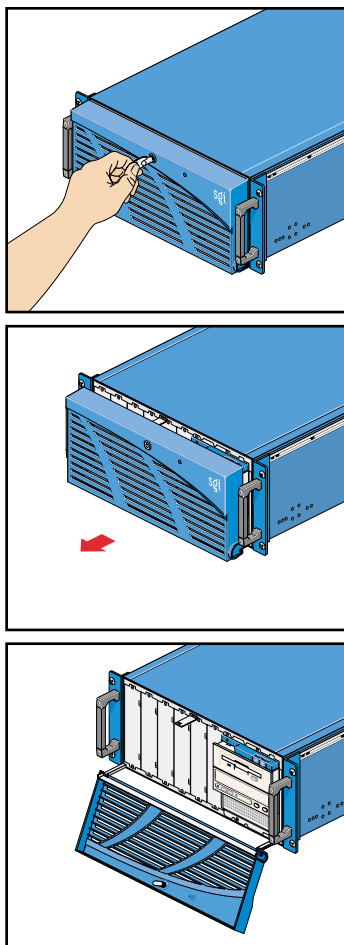

Figure 4-1 Opening a Node Bezel
2. Pull the bezel out and away from the node, and swing the bezel down, as shown in Figure 4-1.